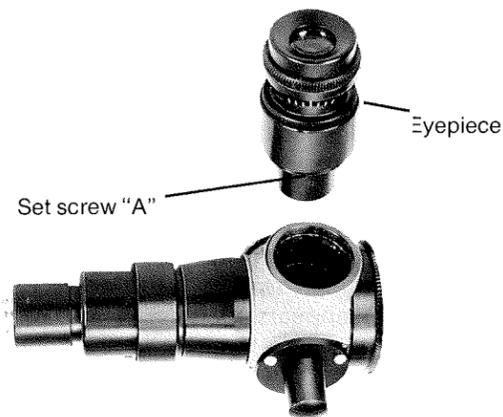

Figure A-5. Installation of Combination Auto-Collimation, Projection, Right-Angle Eyepiece
2. Loosen setscrew "A" (Figure A-5) with a 0.035 inch hexagon key.